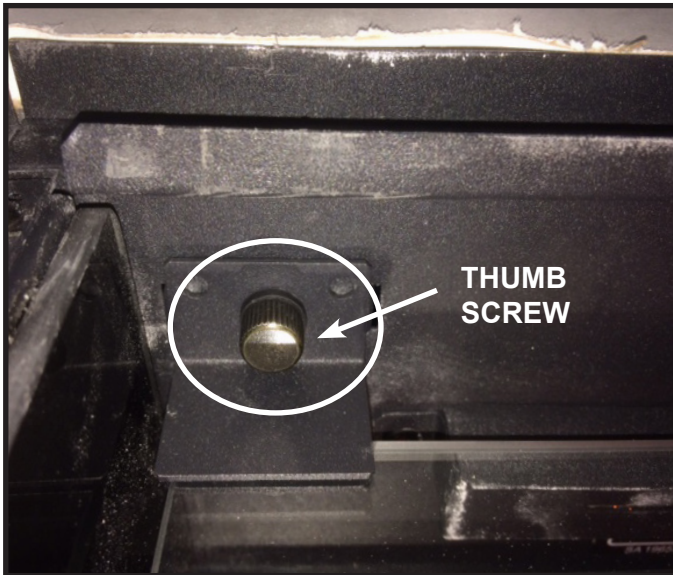

Figure 4.12 Glass Removal and Installation
Remove the two (2) ST5X8 thumb screws and retaining brackets. See Figure 4.12. Carefully remove glass panel. Set glass aside by placing one edge on a soft surface.
1. Thread the two (2) ST5X8 thumb screws into the threaded holes on the glass panel. Check the alignment of the glass panel and securely tighten the screws. See Figure 4.12.